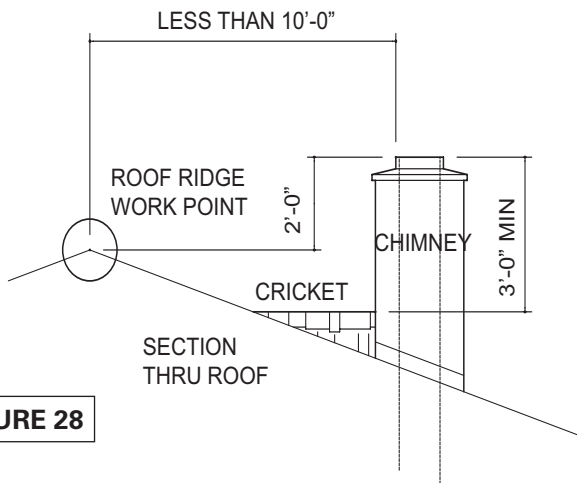

FIGURE 28
(1) If the horizontal distance from the roof ridge to the opening of the chimney is less than 10', the top of the chimney must be at least 2' above the roof ridge.
(2) If the horizontal distance from the opening of the chimney to the roof ridge is more than 10' then a chimney height "work point" is established on the roof surface 10' horizontally from the opening of the chimney. The top of the chimney must be at least 2' above this work point.
(3) In all cases, the chimney cannot be less than 3' above the roof at the edge of the chimney. **(Figures 28 & 29)**